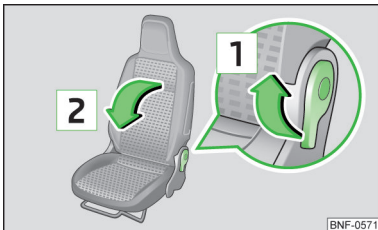

Fig. 49
- Place the lever in position **1** » Fig. 49.